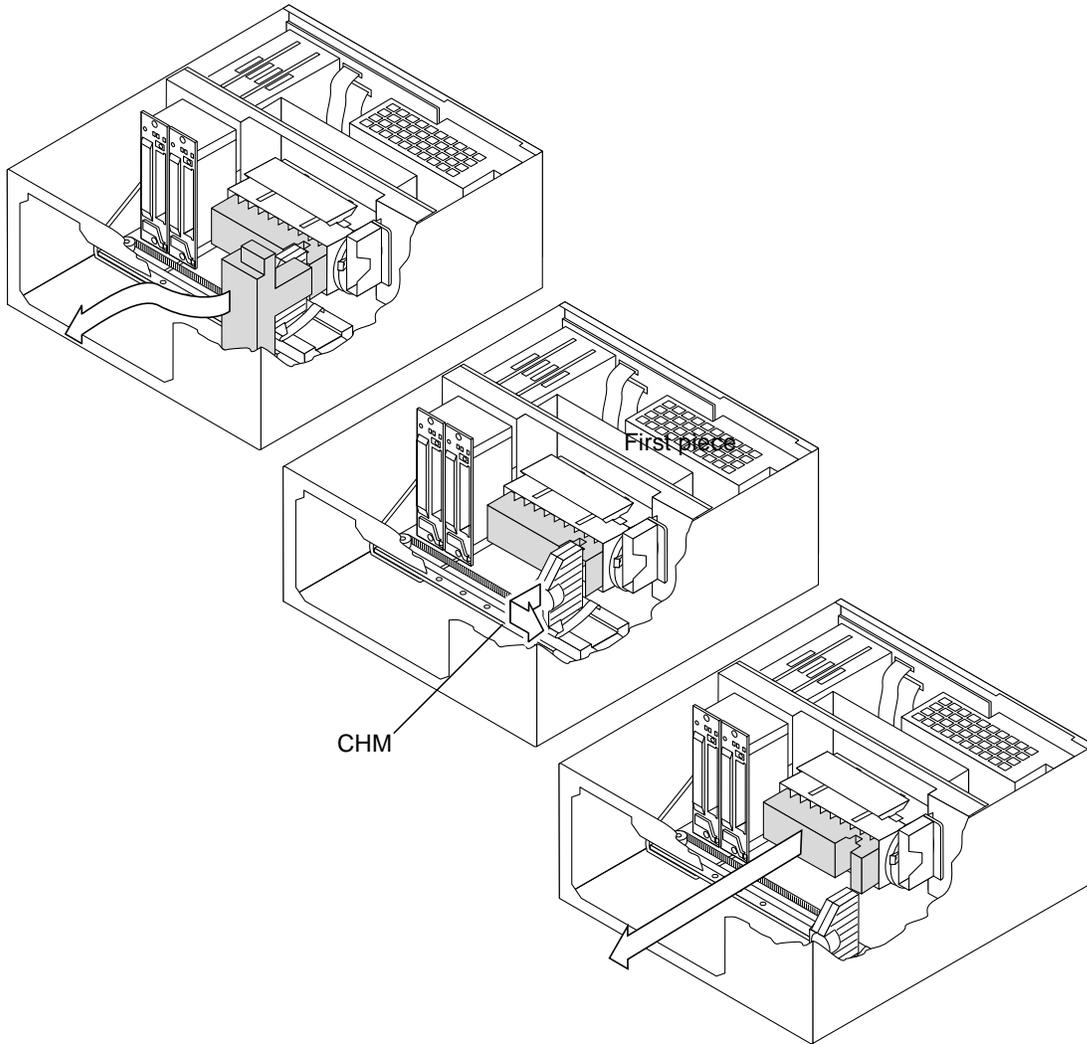

FIGURE 2-2 Removing Packing Material
- 5. Reach in through the open door and remove the packing material (FIGURE 2-2).**